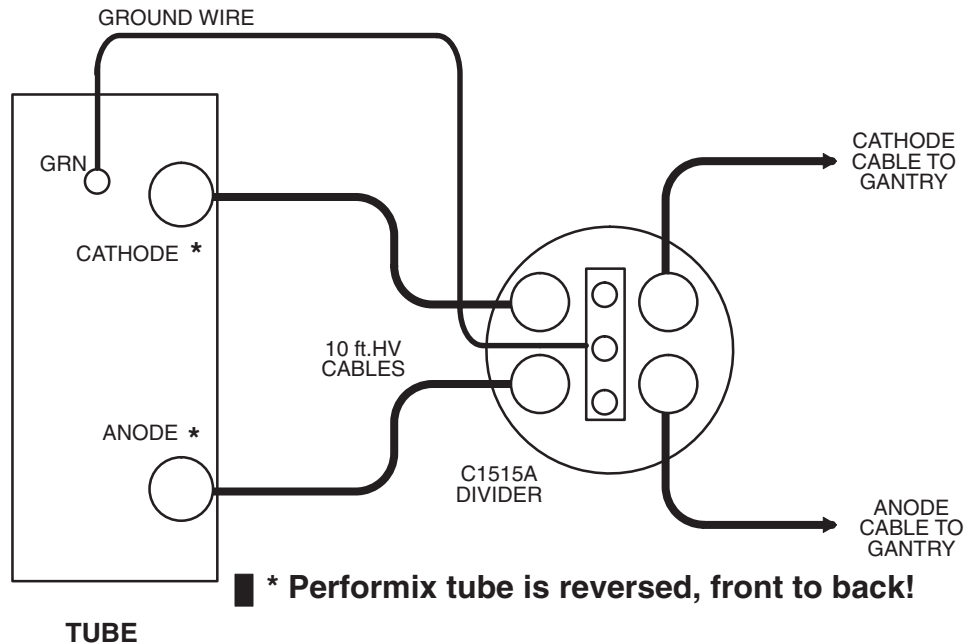

Figure 9-10 HV Divider Installation
- a.) Switch OFF the HVDC (550) enable.
- f.) Refer to Figure 9-10. Install the HV Divider between Tube and Tanks.
- 3.) Refer to Figure 9-10. Add a ground wire (minimum size of AWG 12) from Tube ground to Bleeder ground.
- c.) Remove the HV Divider between the Tube and Tanks (Figure 9-10).